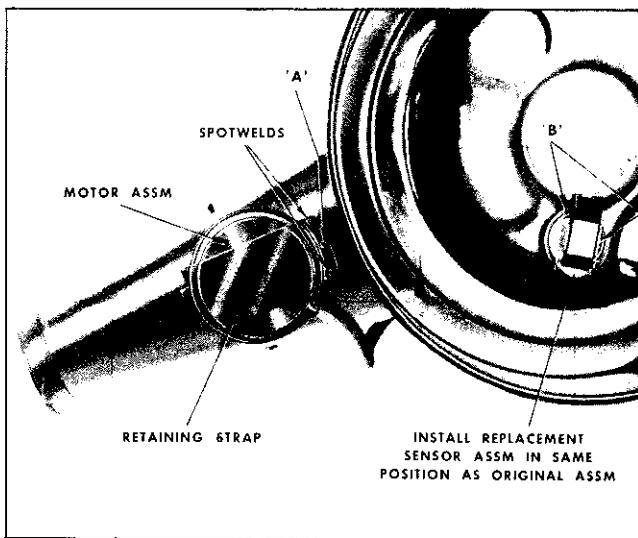

Fig. 6D-1 Therm-AC Motor and Sensor
a. Drill a 7/64" hole in snorkel tube at point A as shown in Fig. 6D-1.
2. Support sensor at position B as shown in Fig. 6D-1 and press clip on sensor being careful not to install sensor.